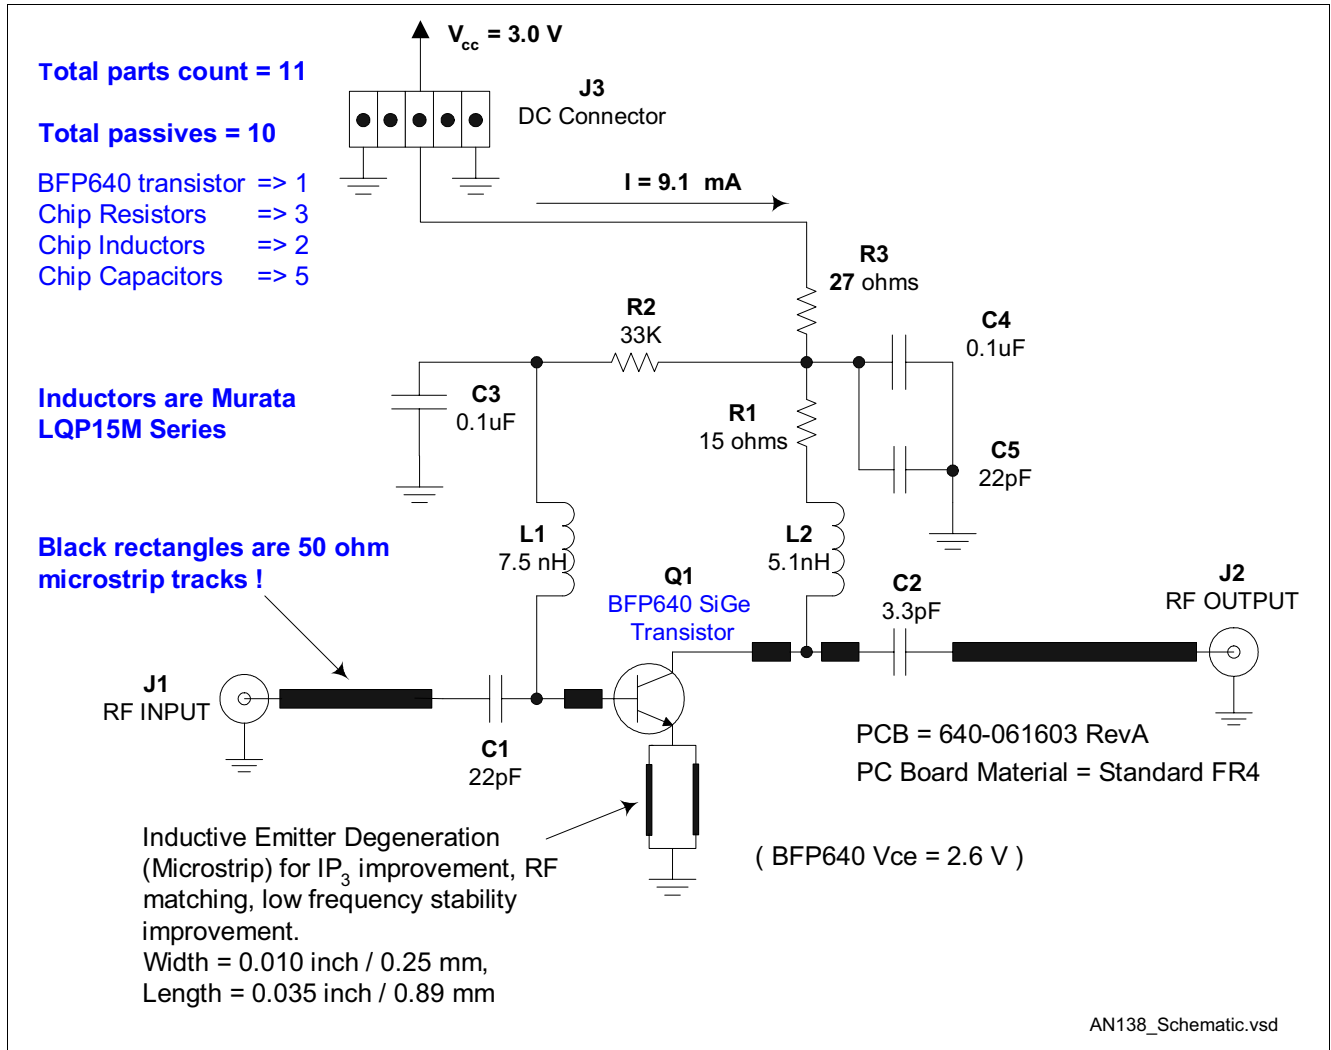

Figure 2 Schematic Diagram
- Output P_{1dB} meets target at 1575 MHz, but is slightly low at 1227 MHz. OP_{1dB} can be improved by increasing current; do this by reducing value of resistor R2 (see Figure 2)